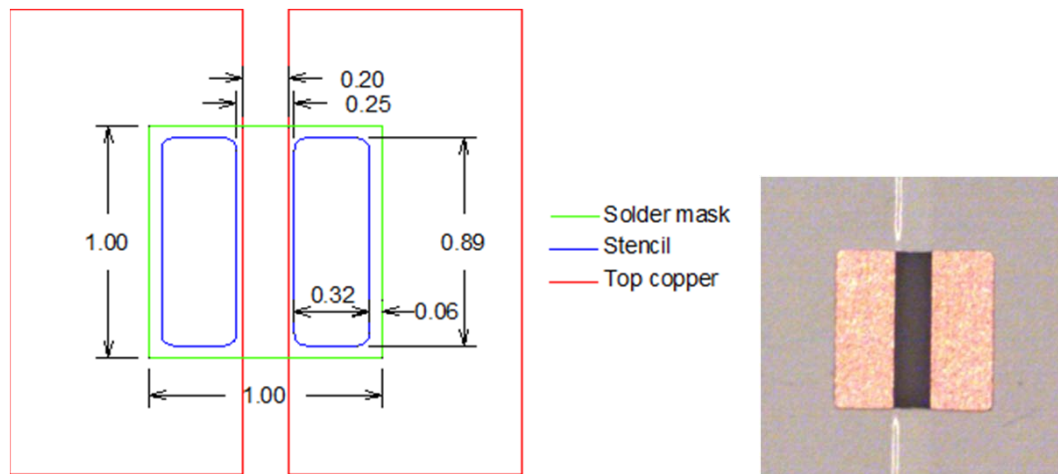
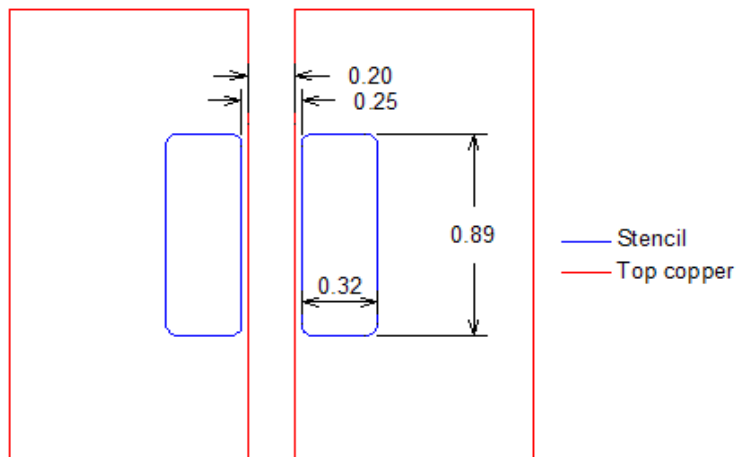

Figure 5. Recommended LUXEON FlipChip footprint design (left). Actual PCB footprint (right). All dimensions in mm.
Figure 14. Recommended LUXEON FlipChip footprint design for LED package design.
LUXEON FlipChip has two pads that need to be soldered onto corresponding pads on the PCB to ensure proper thermal and electrical operation. For optimum thermal performance, the copper area around the anode and cathode pads should be extended to maximize heat spreading into the PCB (Figure 5). Enlarging the solder mask area than the recommended size may affect the light output and color of the overall LUXEON FlipChip system.
3. The stencil plate must be flushed to the top of the solder mask using the recommended footprint design in Figure 5 during solder paste dispensing. Any large particles on top of the PCB may prevent a good contact between the stencil plate and PCB board.
Copper layout is similar to Figure 5 but without the solder mask (Figure 14).